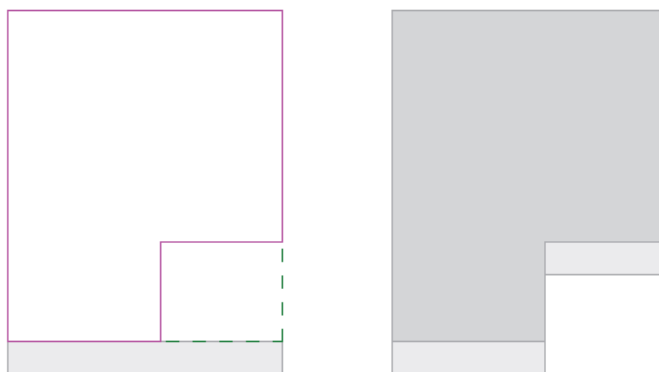

Figure 7–9
5. Once the profile is complete, click  (Finish Edit Mode) in the Mode panel. The footing now follows the new profile as shown on the right in Figure 7–9.